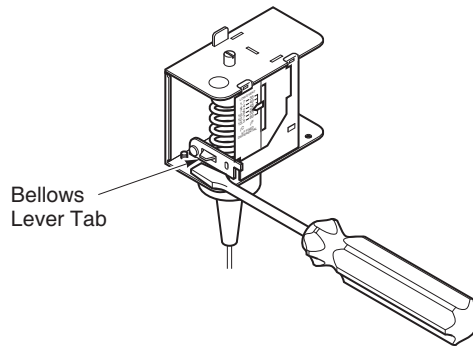

Figure-5 Manual Operation of Switch on TC-5231 and TC-5241.
- When the sensed temperature is below setpoint, the switch is open (terminals 2–3 on TC-52x1 and terminals L–T on TC-5232), and the tab at the end of the bellows lever is down. The switch can be momentarily closed by lifting the tab with a screwdriver. See Figure-5.